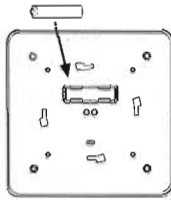

Figure 9
2. Remove and replace battery (it is helpful to use a small screwdriver to lift the end of the battery from the compartment) (Figure 9).